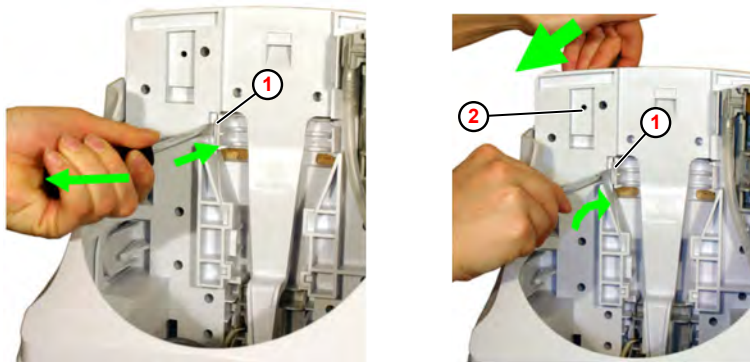

Fig. 20: Removal from the holder (shown with EcoPlus S)
1. ➤ Insert a large flat-headed screwdriver( Fig. 20 , ① ) (broad blade) between the catch and the rear wall of the unit.
2. ➤ Turn the screwdriver until the catch opens and, at the same time, pull the unit ② forwards with the other hand.